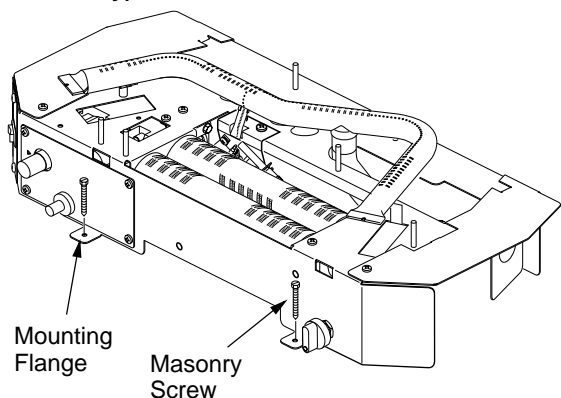

Figure 13 - Attaching Base Assembly to Fireplace Floor (30" Model Shown)
8. Mark screw locations through one hole on each side of the mounting bracket (see Figure 13). If installing in a brick-bottom fireplace, mark screw locations in mortar joint of bricks.